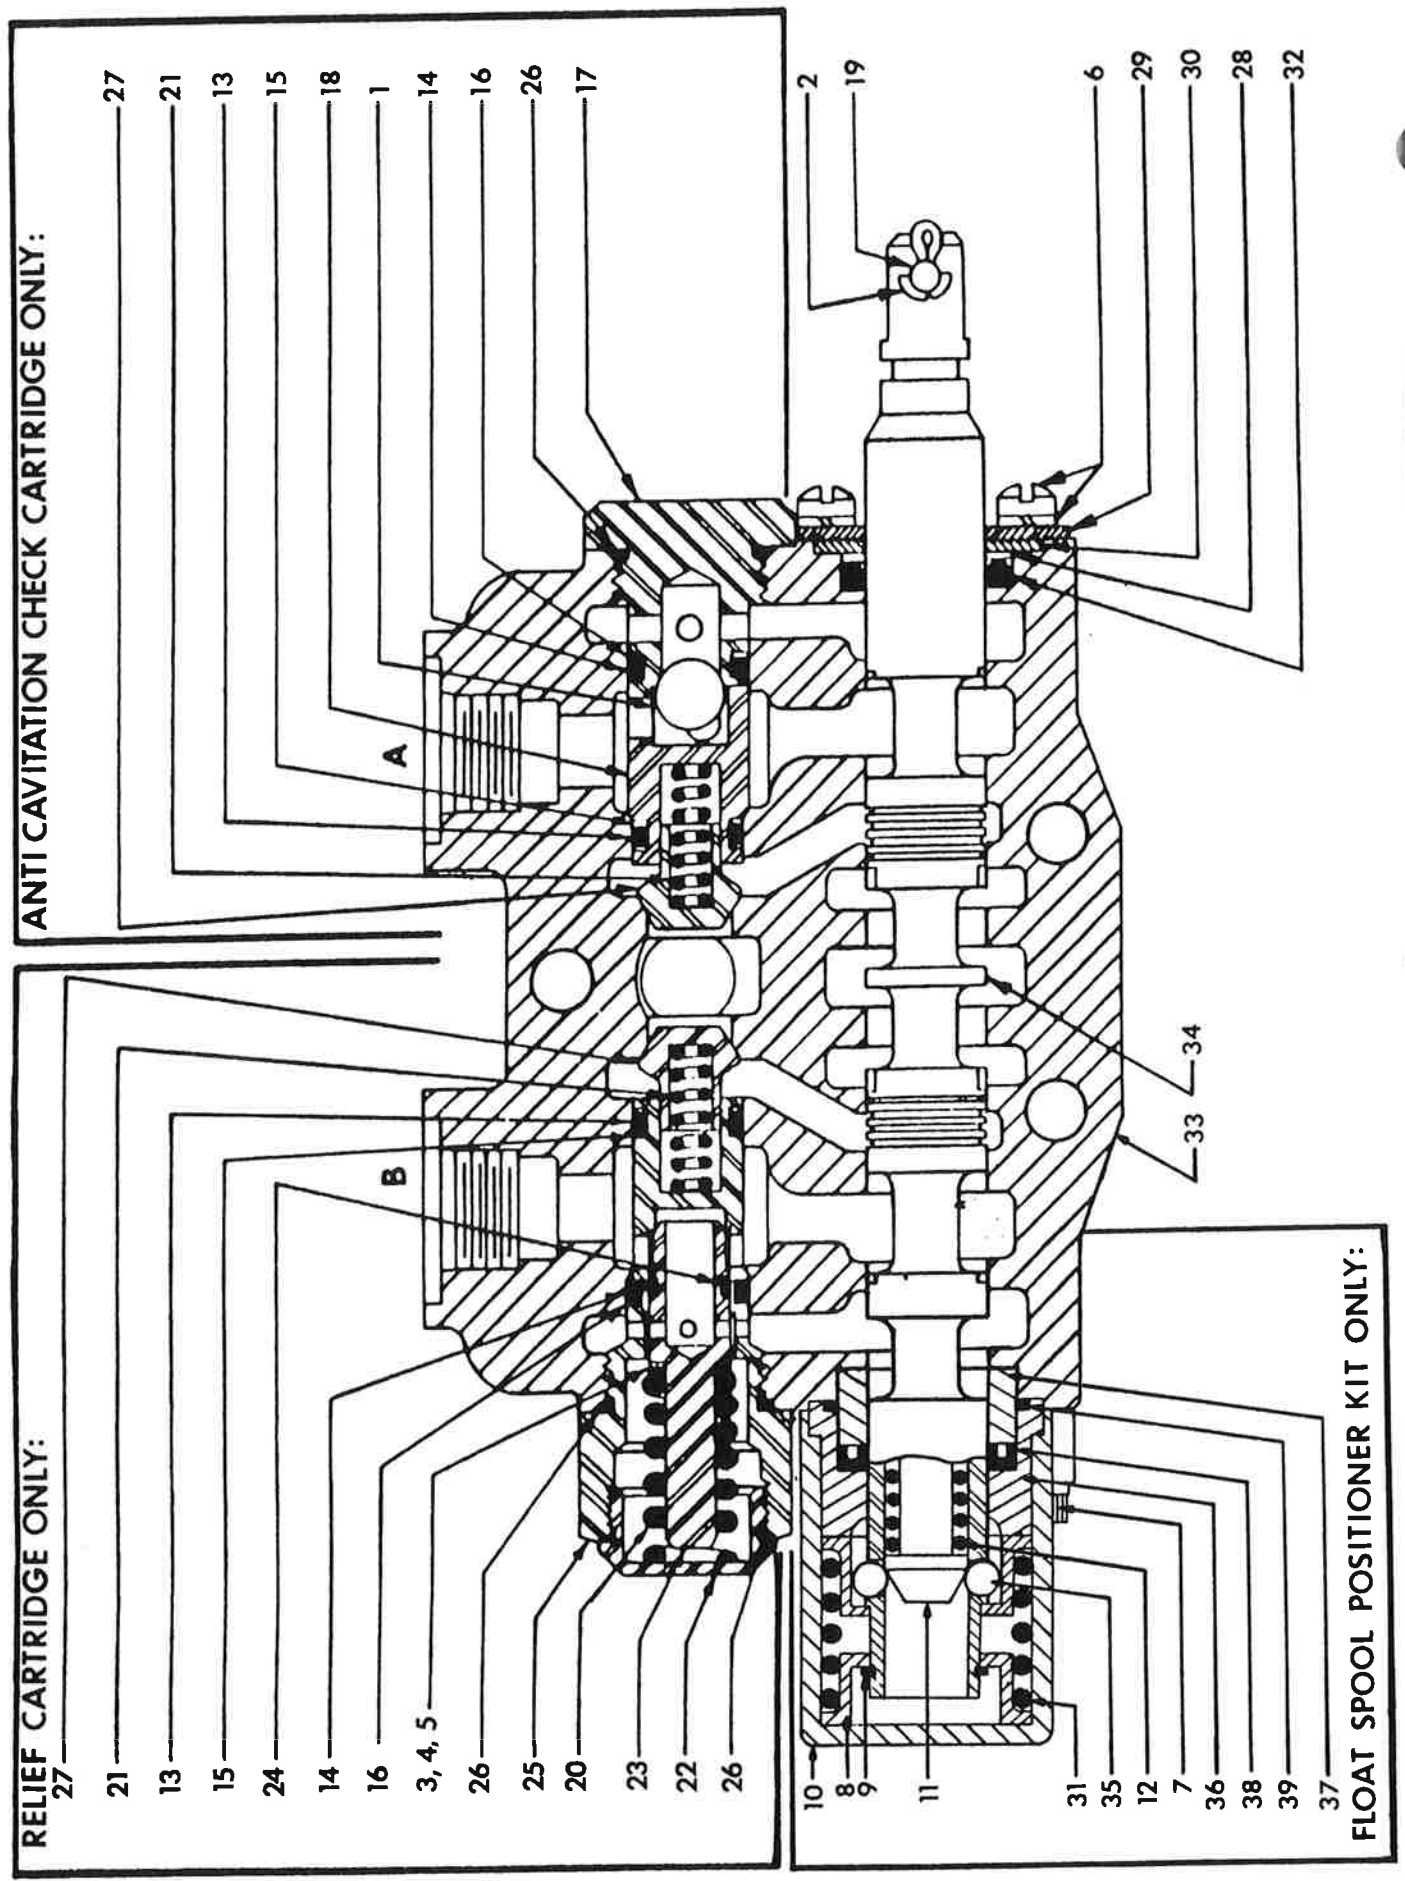

FIG 8
20. Bent spool.	replace with new spool section. See item 31 at the end and Fig 8, 9, and 10.
23. Spool not moved to full stroke.	check travel, should be 5/16 inch either way or a total of 5/8 inch. See item 31 at the end.
25. Overload relief valve in the control valve stuck open or malfunctioning.	clean relief carefully but do not disturb its pressure setting as it can not be field calibrated, or replace cartridge. See item 31 at the end and Fig 8 and 9.
28. Check poppet in the control valve.....clean check poppet(s) carefully, being sure that it moves freely with good spring action and seats properly or replace. See item 31 at the end and Fig 8, 9, and 10.
29. Damaged or worn spool seals.....replace spool end seals, see item 31 at the end and Fig 8, 9, and 10.
30. Check ball in anti-cavitation check.....clean anti-cavitation valve carefully, being sure that checks move freely and seat properly, or replace cartridge. See item 31 next, and Fig 8 and 9.
## PARTS LIST - FIG 8